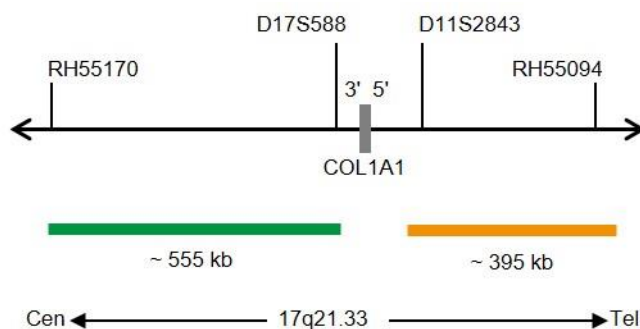

Fig. 1: SPEC COL1A1 Probe map (not to scale)
- ZyGreen (excitation 503 nm/emission 528 nm) labeled polynucleotides (~10 ng/μl), which target sequences mapping in 17q21.33* (chr17:47,669,218-48,223,465) proximal to the COL1A1 breakpoint region (see Fig. 1).
- ZyOrange (excitation 547 nm/emission 572 nm) labeled polynucleotides (~4.5 ng/μl), which target sequences mapping in 17q21.33* (chr17:48,347,800-48,744,021) distal to the COL1A1 breakpoint region (see Fig. 1).